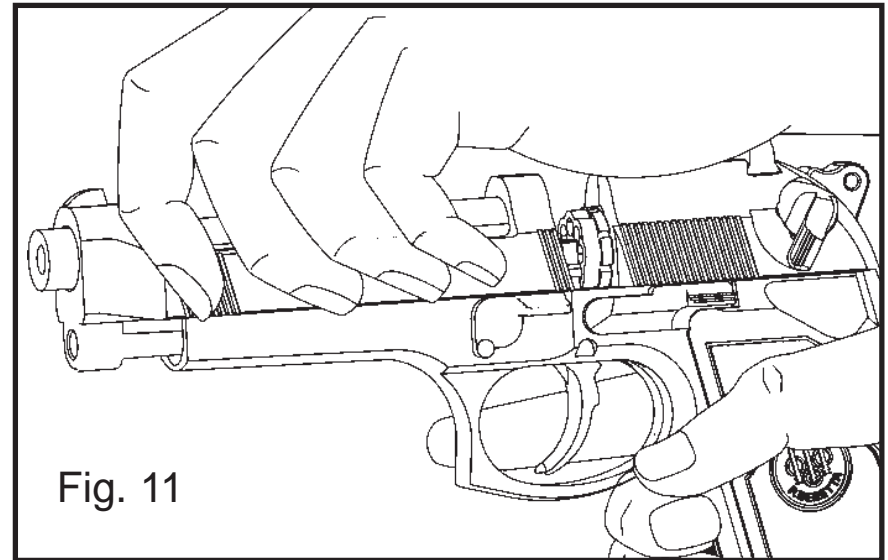

Fig. 11
- Grip the slide from the top (see Fig. 11) and move it rearward to the closed position.